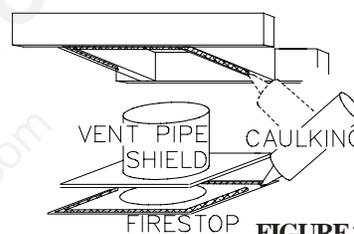
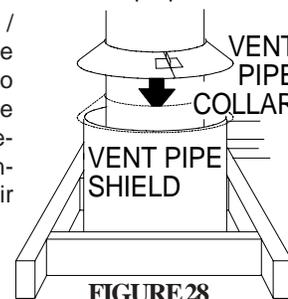

FIGURE 27
FIGURE 28
2. Apply a bead of caulk (not supplied) all around the vent shield and place onto the firestop spacer. Secure. Apply a bead of caulk to the framework and secure over the opening in the ceiling. **FIGURE 27.** Ensure that both spacer and shield maintain the required clearance to combustibles. Place over the framed opening and secure. This will restrict cold air from being drawn into the room or around the fireplace. A firestop must be placed on the bottom of each framed opening in a roof or ceiling that the venting system passes through. **FIGURE 28.** Once the vent pipe / liner is installed in its final position, apply sealant between the pipe / liner and the firestop spacer.
If the attic space is tight, we recommend threading the Wolf Steel vent pipe collar or equivalent loosely onto the air terminal assembly as it is passed through the attic. FIGURE 28.